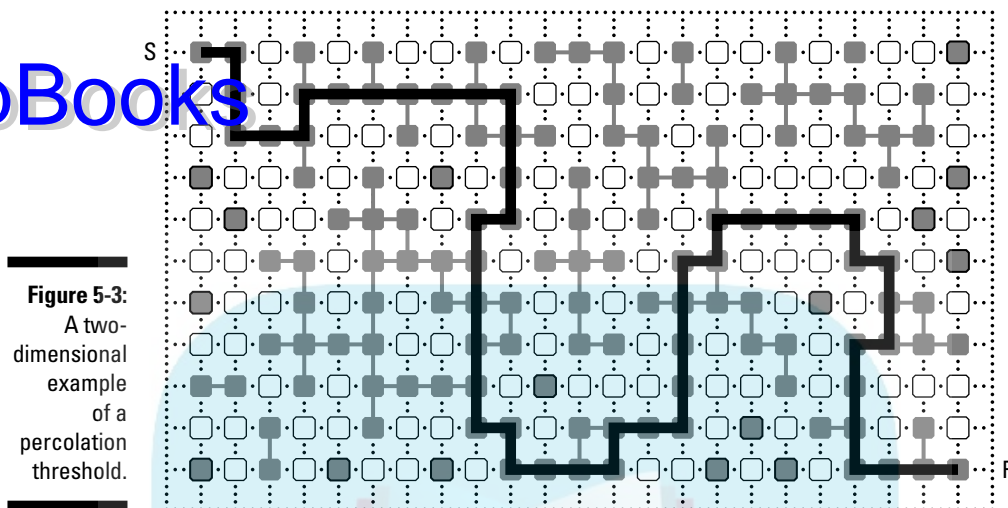

Figure 5-3:
A what and a what? Imagine, if you will, that you have a square piece of plastic and you scoop out holes in the plastic following a fixed pattern. Each hole is (potentially) electrically connected to every other hole. Now, you randomly drop metal into the holes until you get a connecting network — a *spanning cluster* — from one end of the square to the other. This critical point — the point, in this example, where electric current spans from one end of the plastic square to the other — is called the *percolation threshold*: the ratio between how many metal drops are needed to form a connecting network and the total number of holes in the plastic. It’s expressed as a percentage; the higher the percentage, the likelier the electrical connection — but the lower the percentage, the less material needed. Figure 5-3 shows the critical route from start (S) to finish (F), indicating that 150 random metal drops, landing in 150 of 253 possible holes (in other words, 59.29 percent of all possible holes) were enough to get a connection from one side to the other. The percolation threshold for this two-dimensional example is therefore 59.29 percent.